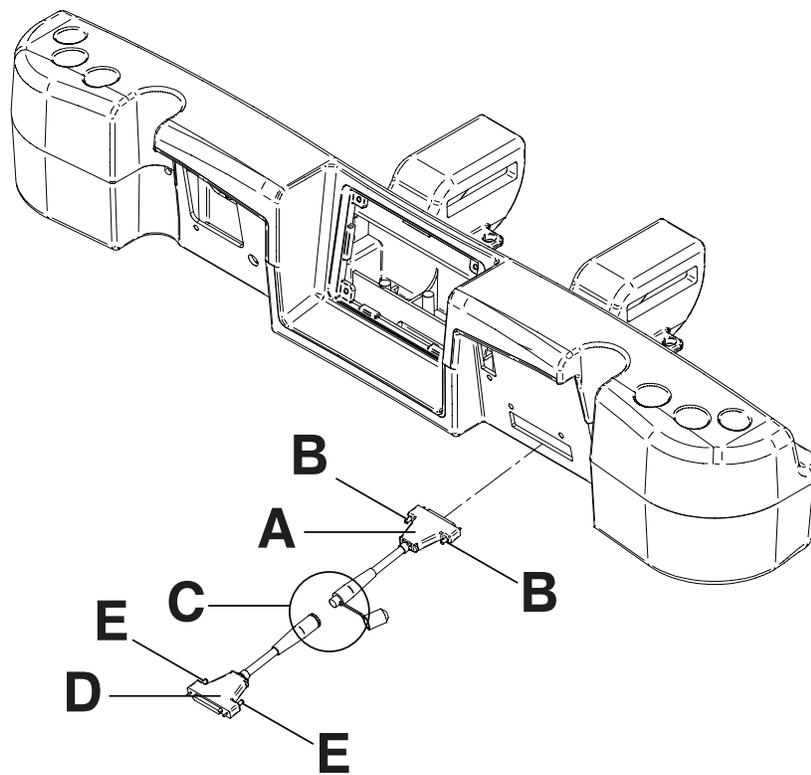

Figure 88: Wall saver connections
1. Insert the pin end of the first connector (A) into the head end of the product (Figure 88 on page 87).
2. Screw the connector fasteners (B) in to secure the connector to the product (Figure 88 on page 87).
3. Connect the back end of the second connector into the back end of the first connector (C) (Figure 88 on page 87).
4. Insert the pin end of the second connector (D) into the wall (Figure 88 on page 87).
5. Screw the connector fasteners (E) in to secure the connector to the wall (Figure 88 on page 87).